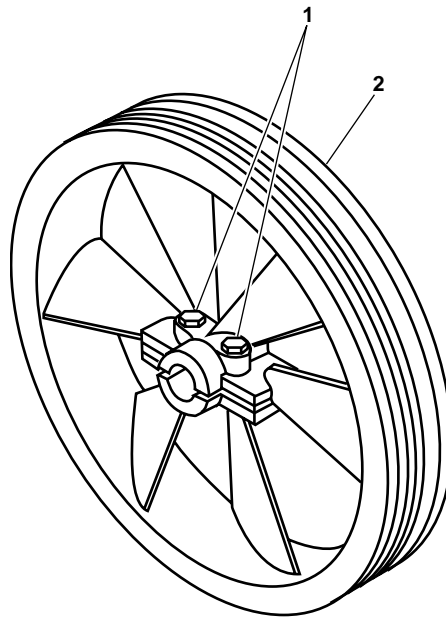

Figure 7. Compressor Sheave Clamp Bolts
- a. Loosen the sheave clamp bolts (figure 7, item 1).
- b. Slide the sheave (figure 7, item 2) in or out on the compressor shaft until the proper alignment is achieved.
- c. Torque the sheave clamp bolts (figure 7, item 1) to 90 lb-ft (122 Nm).